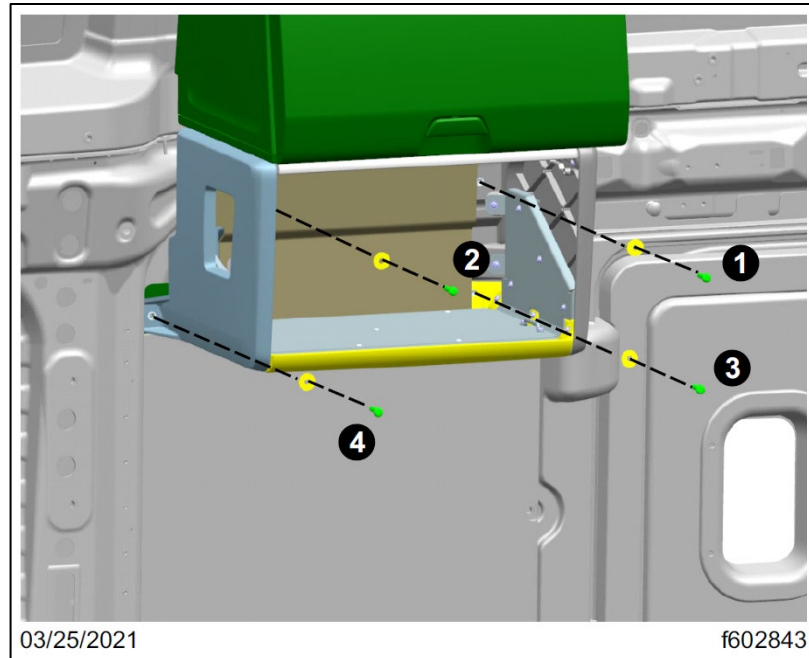

Fig.70, Fasteners That Attach the Microwave Cabinet to the Sidewall
17.2. Install the four fasteners that attach the microwave cabinet to the cab wall. Tighten the fasteners 7 to 9 lbf.ft (9 to 12 N.m) as per the sequence shown in Fig. 70.